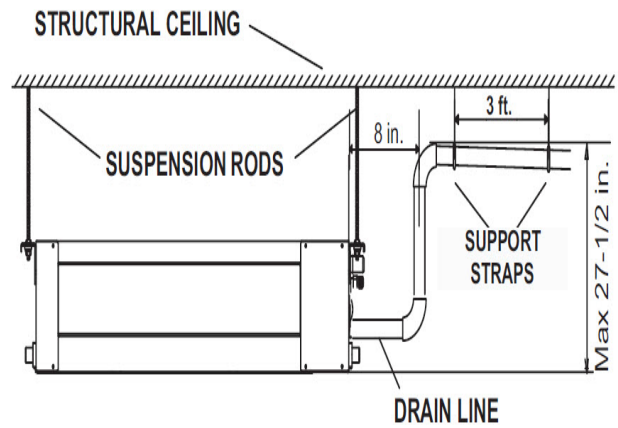

Fig. 17 — Condensate Piping
- The highest point in the condensate piping should be as close to the unit as possible (see Fig. 17).